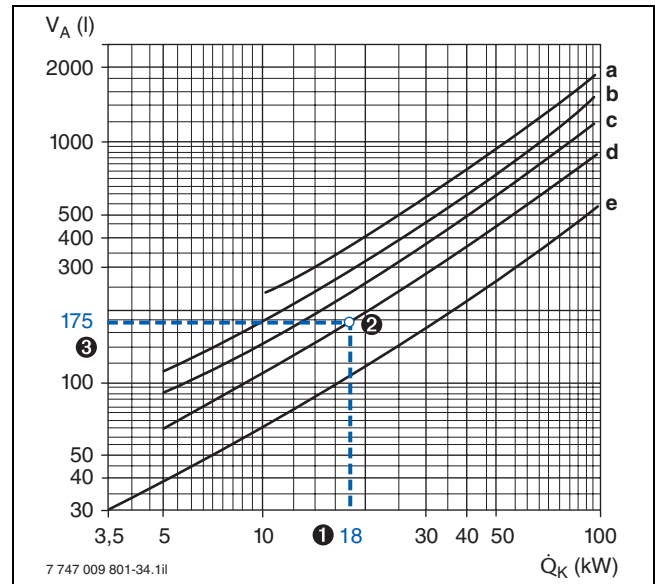

Fig. 71 Guidelines for average water content of heating systems (acc. to ZVH guideline 12.02)
Subject to various heating system parameters, the system volume can be checked in Fig. 71.
- ③ Total system water content = 175 l (→ Fig. 71, curve d)
The maximum system volume identified by point 3 on the graph in Fig. 71 must be less than the maximum permissible system volume. If that is not the case, select a larger expansion vessel.
- ❹ An EV with 12 litre capacity is required as the system volume determined in accordance with fig. 71 is less than the maximum permissible system volume.